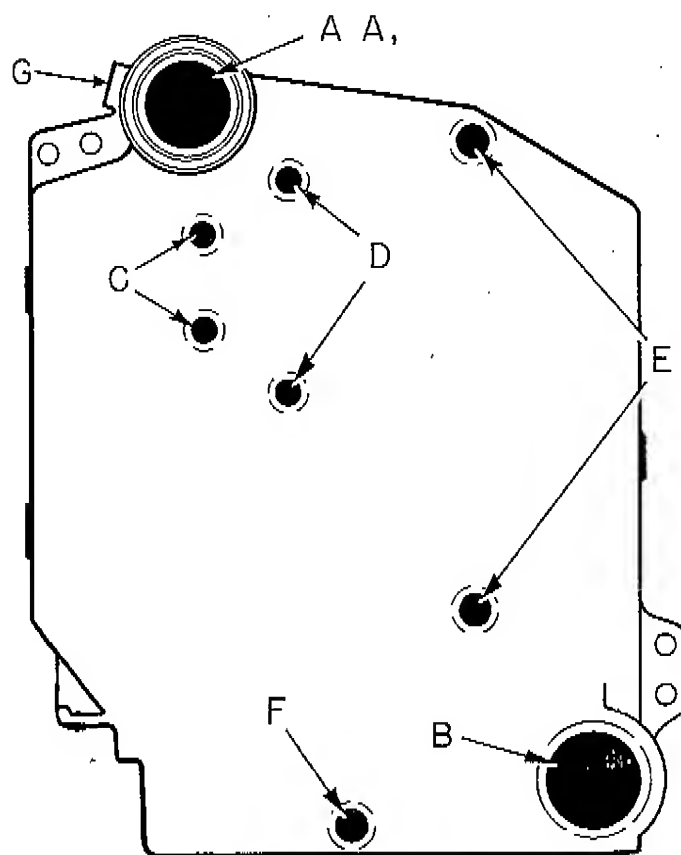

Figure 15
Place the necessary plugs and wells in the correct position. Refer to end section, Figure 15. Plug all other holes and connect water. Before filling with water, leave an air vent in the top of one end section. Fill the boiler with water until it runs out of the air vent. Plug the air vent. Check for any water leaks before continuing with assembly.
Figure 15 is a drawing of the end section showing the use of the various tappings. Note the two unmarked holes at left of supply tapping are holes for the pull rods. On sections with 6 inch tapping the pull rod hole closest to the tapping is not present.
1. Install temperature-pressure-altitude gauge in tapping indicated in Figure 15. The Red Hand should be set to indicate the height from the gauge to the highest point in the system or to the fill pressure.